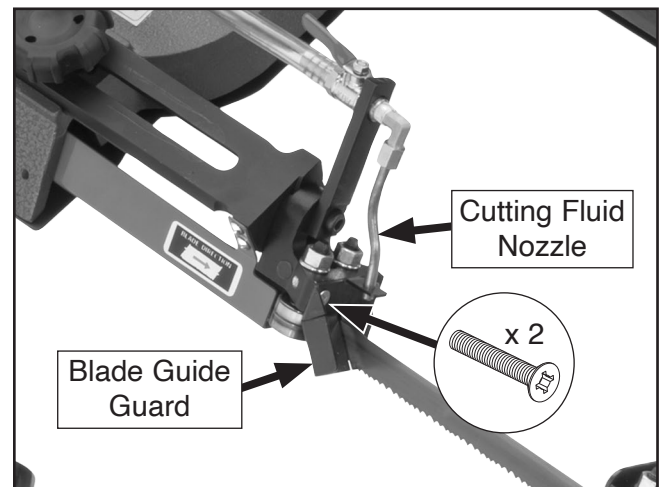

Figure 80. Location of front blade guide guard and cutting fluid nozzle.
- If front blade guide needs adjustment, remove (2) screws shown **Figure 80** to remove front blade guide guard, then swing cutting fluid nozzle out of the way to adjust squareness cap screw.